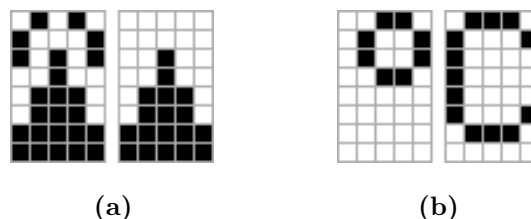

Figure 4: Custom LCD characters
- Read the document `st7036.pdf` to learn how to program custom characters and use them to prettify your output. For the DCF77 time example, you might want to switch between the two “radio controlled” icons shown in figure 4 (a) as soon as the time is synchronized. For the temperature sensor application, you might want to add a custom “degree” sign (aligned to the right in contrast to character `0b11011111`) to be able to display the text “°C” (compare figure 4 (b); you can use a normal “C” as second character in this case).